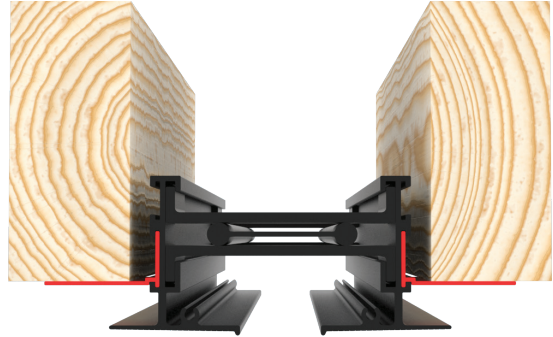

Figure 6 (Step 3C): LAD Installed in Framing
- C. Then attach the F Clip and LAD Linear Diffuser to the underside of the framing with screws or nails by others (see Figure 6).